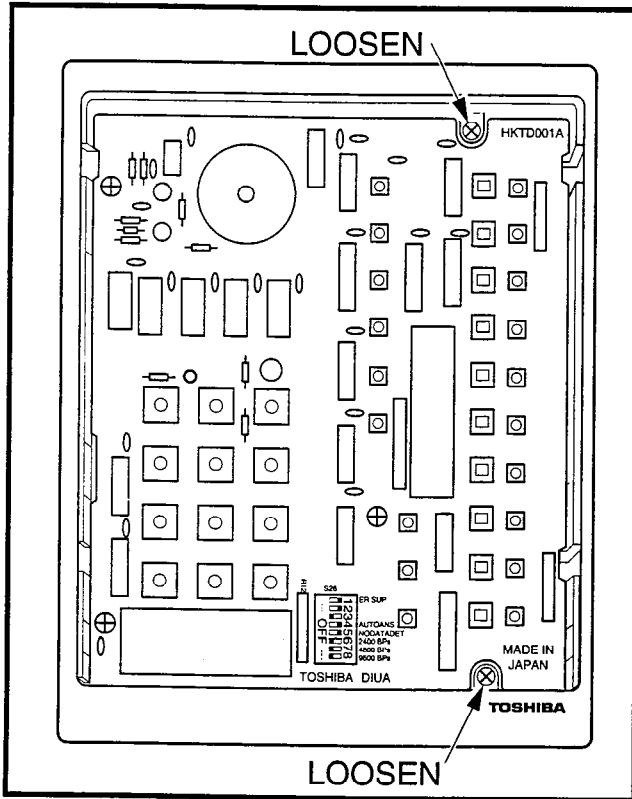

FIGURE 4-40—DDIU-MA DIUA PCB
5.94 The DDIU-MA's faceplate must be removed to set the internal DIP switches. Remove the faceplate by carefully lifting the lower right corner and then pulling the faceplate away from the base. Set the following parameters as required at switch **S26** on the internal DIUA PCB (Figure 4-40):
- 1) Loosen the two screws found under the DDIU-MA's faceplate on the right side (top and bottom) of the DIUA PCB (Figure 4-40).